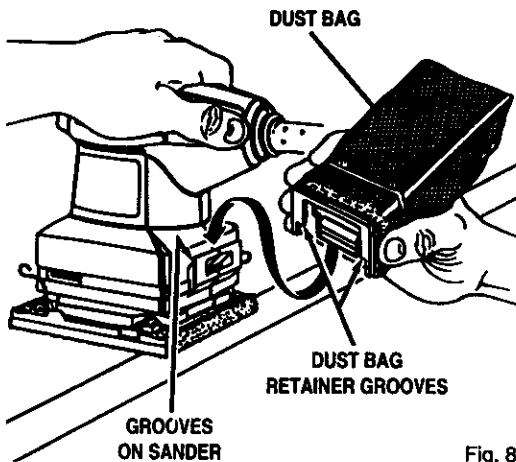

Fig. 8
See Figure 8.
- Slide dust bag assembly into place as shown by the arrow in figure 8.